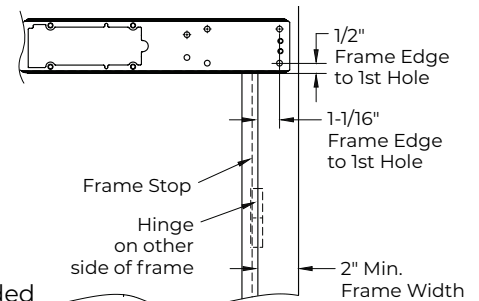

Figure 2 Right Hand Shown
2. Measure, mark, and drill the first mounting hole according to the template (available for download from [www.nortonrixson.com](http://www.nortonrixson.com)). (Figure 2)